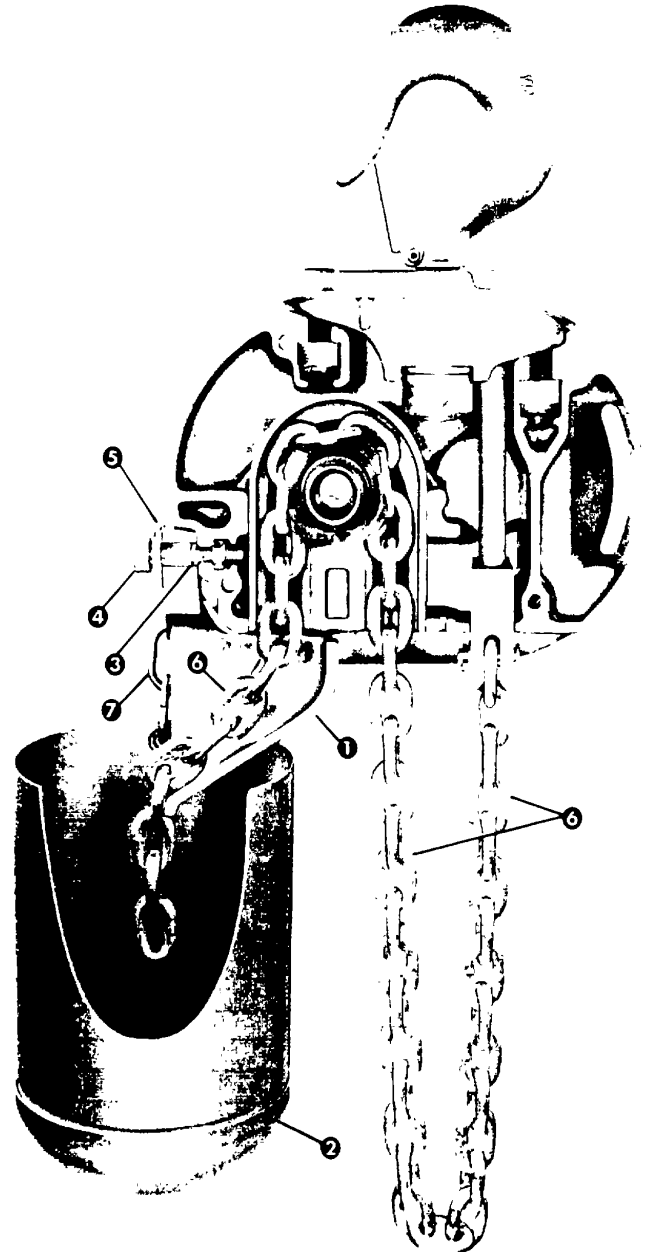

FIGURE 10. ATTACHING CHAIN CONTAINER.
2. Insert loose end of chain through chute and into bucket as shown in Figure 10.